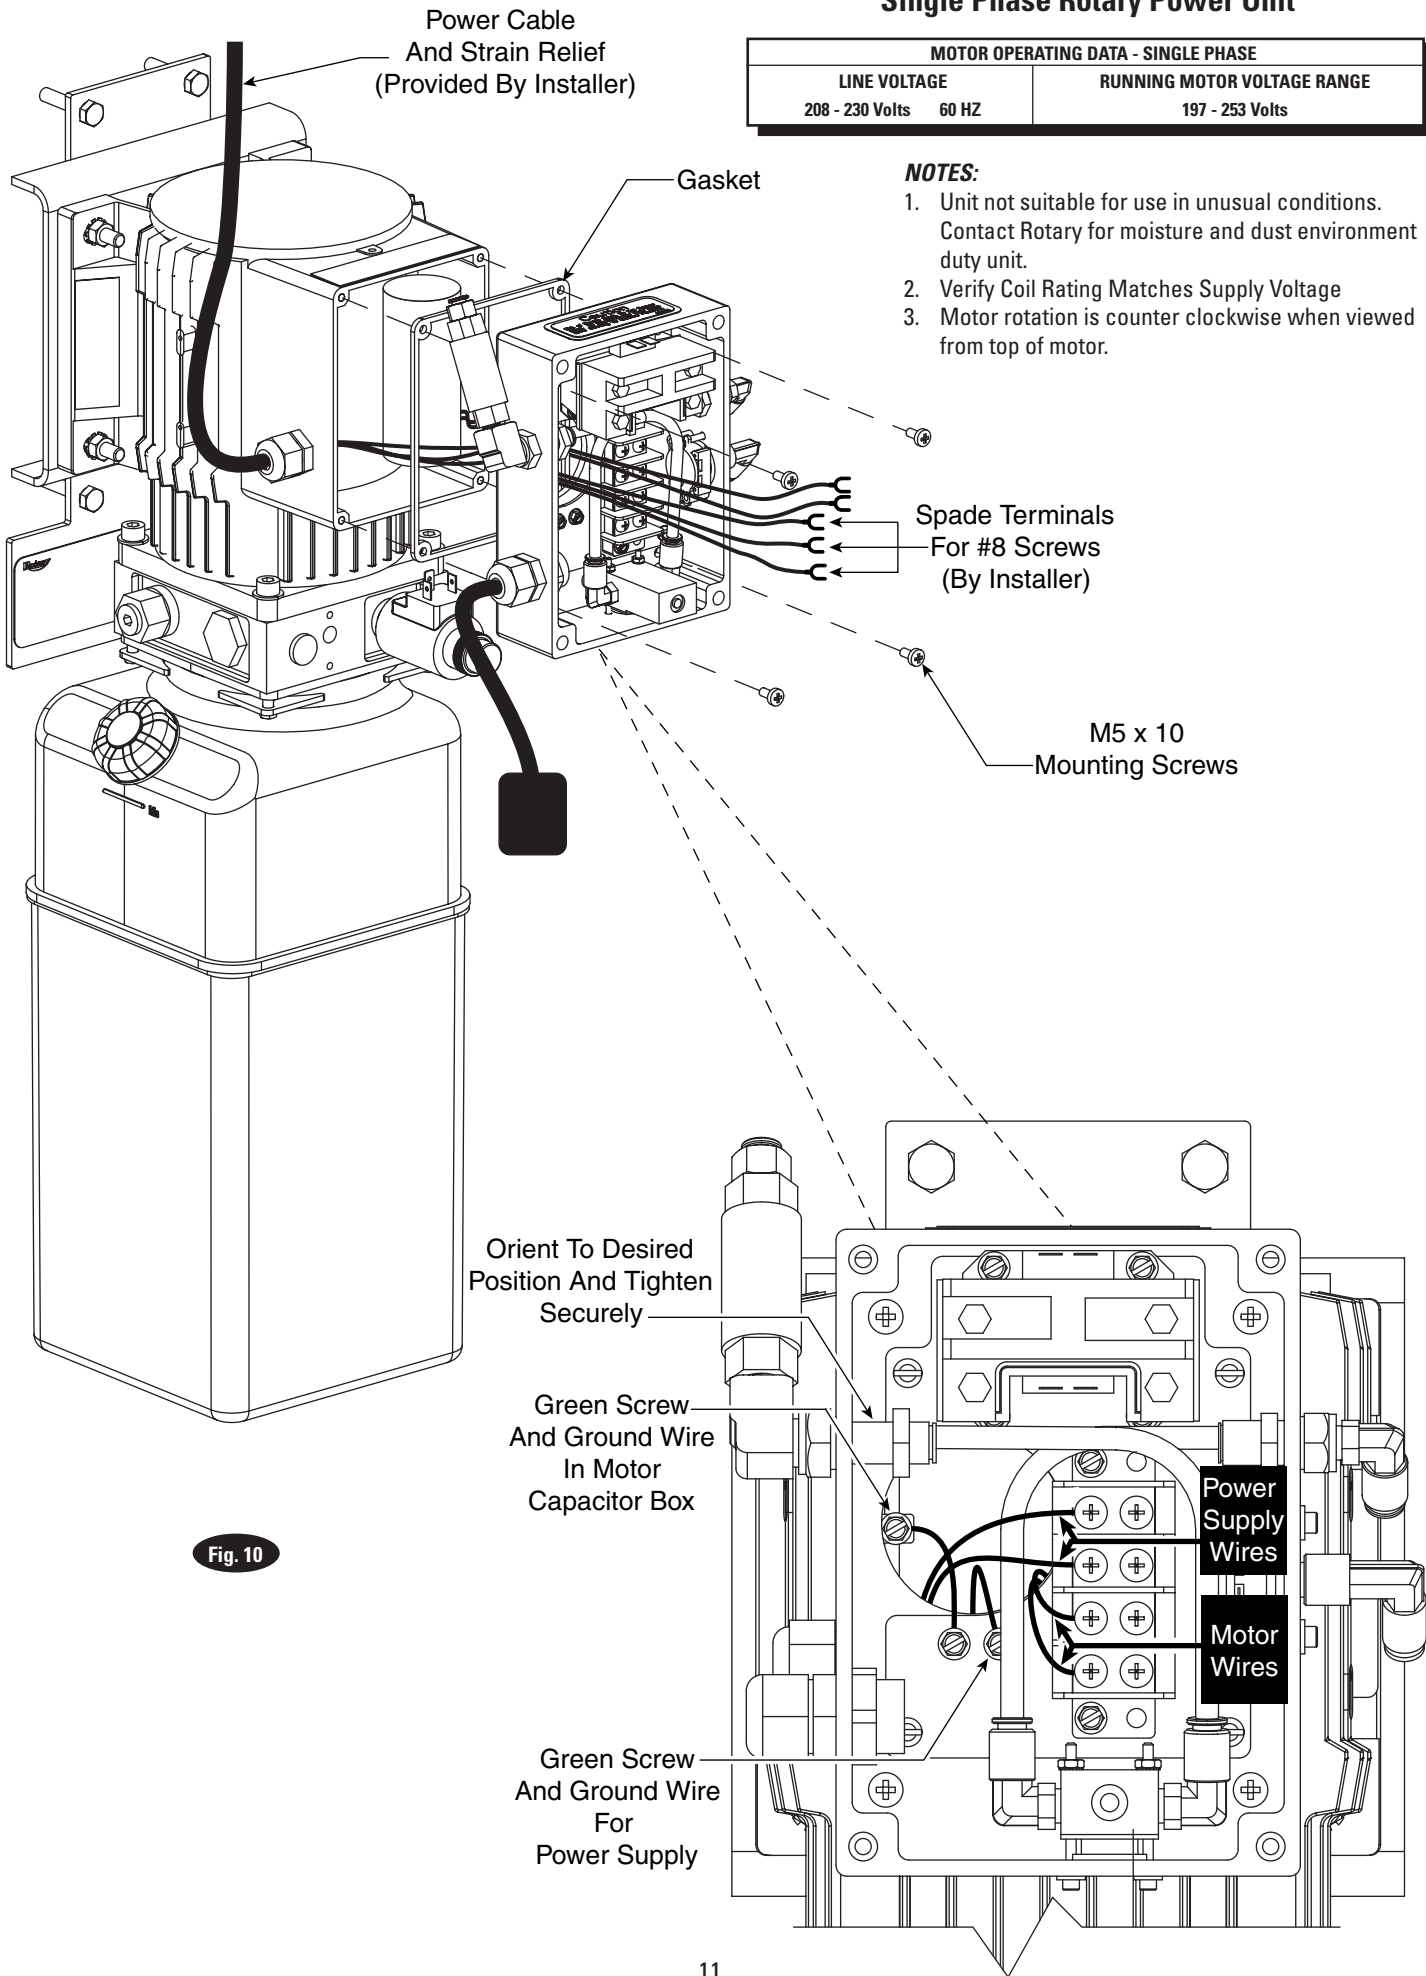

Fig. 10
## 9. Mounting Master Control Panel, Fig. 10:
- A.** Remove front cover of Master Control by unscrewing the (4) screws and unplugging the harness.
- C.** Place gasket on the front of the capacitor box, Figs. 10, 10a.
- D.** Route (2) motor wires through gasket and the hole in the back of Master Control Box. Fasten to indicated locations on terminal block, Figs. 10, 10a.
- E.** Route green ground wire through gasket and fasten to the ground screw inside the capacitor box of the motor, Figs. 10, 10a.
- F.** Have a certified electrician run appropriate power supply to the side of the capacitor box of the motor and run the ground wire and power wires through the gasket and the hole in the back of the master control box. Fasten the ground wire to the additional ground screw in back plate and fasten the (2) power wires to the indicated locations on the terminal block.
**ATTENTION** Fasten spade terminals to the ends of the wires sized for fastening to a #8 screw for 1 phase and #A6 screw for 3 phase, Fig. 10, 10a.
- G.** Fasten the Master Control Box with the (4) M5x10 PHMS included making sure the gasket seats between the capacitor box sides and the back of the Master Control Box, Figs. 10, 10a.
- H.** Push excess ground and power wires into the capacitor box behind the control, Figs. 10, 10a.
- I.** Orient bulkhead for input air to desired position and tighten securely, Figs. 10, 10a.
- J.** Plug harness and reattach cover of the master control box, making sure all wires are inside the box and plug is above the terminal block, Figs. 10, 10a.